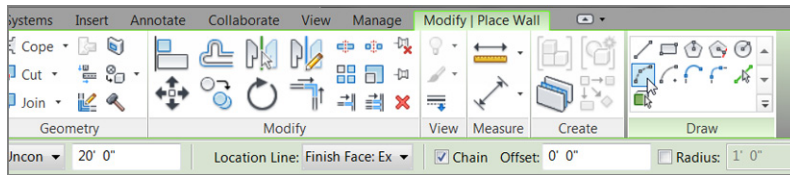

FIGURE 1.30: Just because you started the command from the view window doesn't mean you can ignore your options.
6. On the **Modify | Place Wall** tab, click the **Start-End-Radius Arc** button, as shown in Figure 1.30.